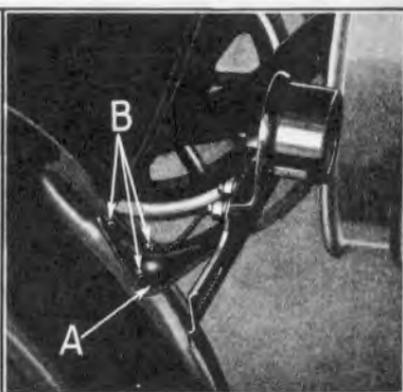

Fig. 540
- 1161 The new tail lamp and license bracket assembly is installed on the left rear fender (see "A" Fig. 540). When changing a left rear fender, it is therefore necessary to remove the bracket. This is done by disconnecting the tail lamp wire at tail lamp and running off the nuts from the ends of the three bracket to fender bolts "B". Bracket can then be lifted off of fender. To install the new tail lamp and license bracket, the procedure is reversed.